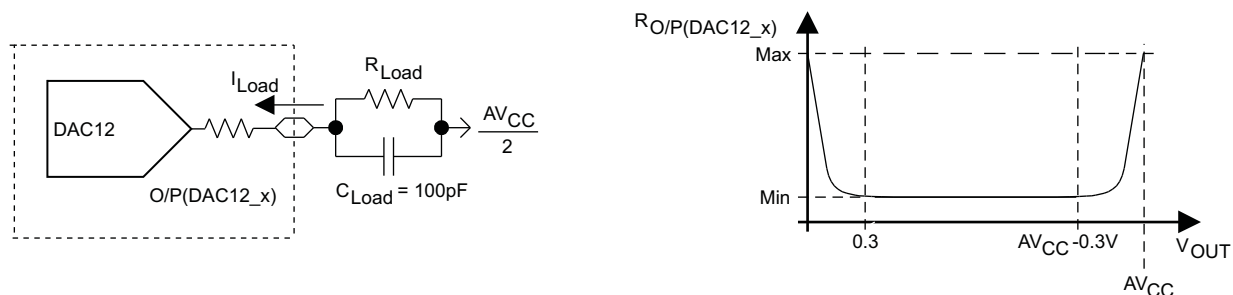

Figure 5-29. DAC12\_x Output Resistance Tests
| R O/P(DAC12) | Output resistance (see Figure 5-29) (1)  | 2.2 V, 3 V      | R Load = 3 kΩ, V O/P(DAC12) < 0.3 V, DAC12AMPx = 2, DAC12_xDAT = 0h        |     | 150              | 250  | Ω |